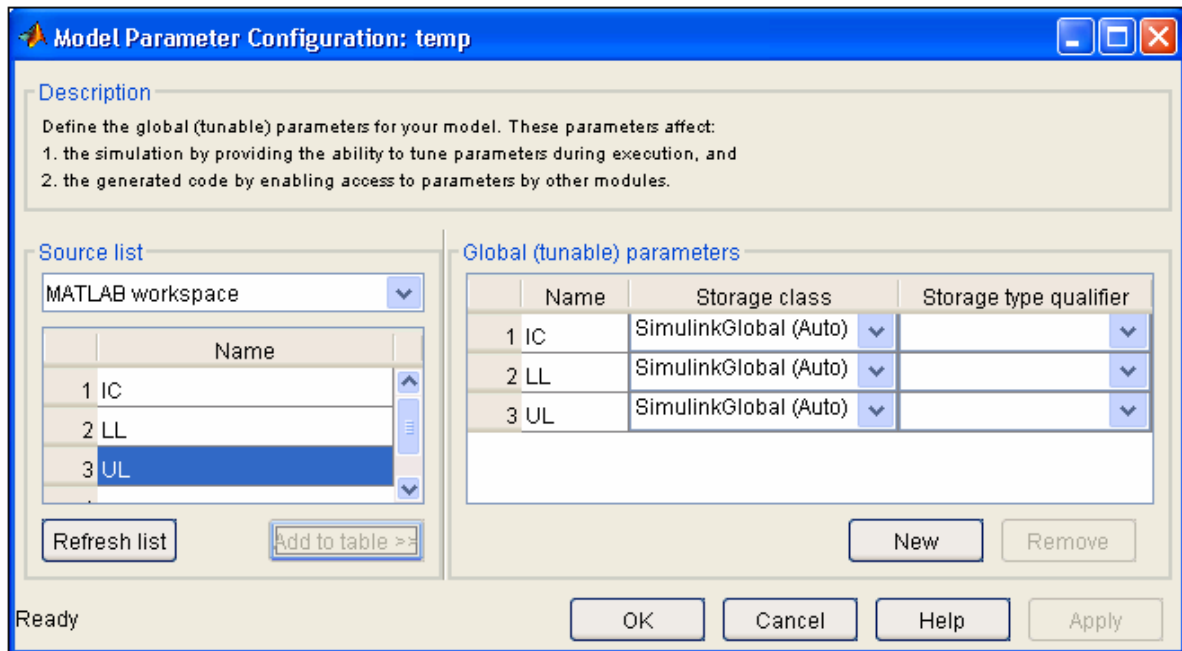

Figure 11: Tunable Parameters page in MATLAB 6.5
- If the *Inline Parameters* button is selected, than you can define which parameters you want to tune in online mode. This can be done on *Tunable parameters* page (Figure 11). This page appears, if you select: *Configure...* button on *Advanced* Page. The list of MATLAB workspace variables is placed on the left side of the *Model Parameter Configuration* window (Figure 11). Select the variable which you want to change in online mode and click *Add to Table...* button to add parameter to *Global*
In this example we'll show how to define exported parameters. We have a Simulink model shown in Figure 13. In Discrete Time integrator we define parameters, as shown in Figure 14 (the parameters that we want to export are in GUI of Discrete Time Integrator signed as IC, LL, and UL). If we want to change these parameters in online mode, we must add these parameters to *Tunable parameters page* (Figure 11). Note that parameters UL, LL and IC must be defined in MATLAB workspace, before you start build procedure. In our example this parameters has the following values: IC=50; UL=100; LL=0;